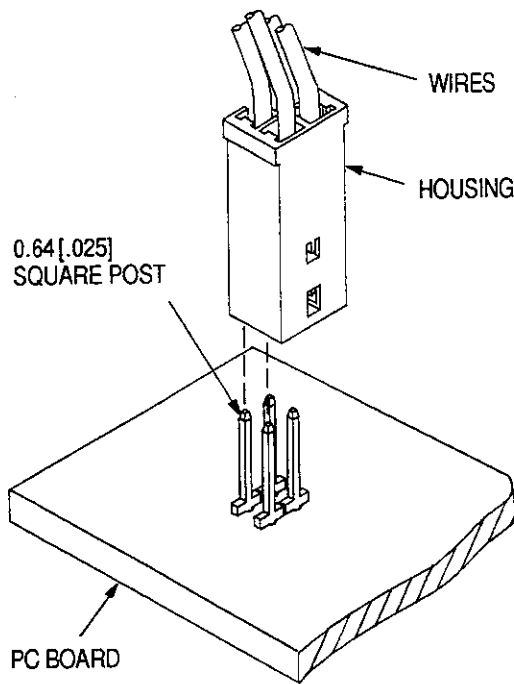

Figure 5
3.4. Installing Housings onto Posts (Figure 5)